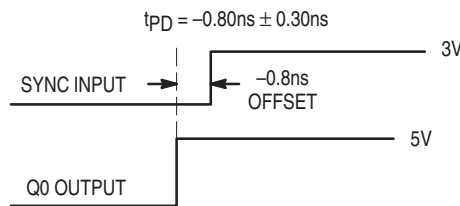

Figure 2. Depiction of the Fixed SYNC to Q0 Offset (tPD) Which Is Present When a 470KΩ Resistor Is Tied to VCC or Ground
2. A 470KΩ resistor tied to either Analog VCC or Analog GND, as shown in Figure 2., is required to ensure no jitter is present on the MC88LV926 outputs. This technique causes a phase offset between the SYNC input and the Q0 output, measured at the pins. The tPD spec describes how this offset varies with process, temperature, and voltage. The specs were arrived at by measuring the phase relationship for the 14 lots described in note 1 while the part was in phase-locked operation. The actual measurements were made with a 10MHz SYNC input (1.0ns edge rate from 0.8V to 2.0V). The phase measurements were made at 1.5V. See Figure 2. for a graphical description.